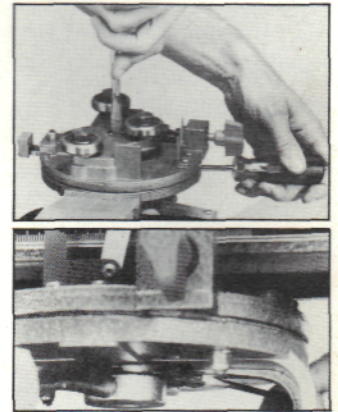

Fig. 26
- (c) While levering the spring steel locking flange downwards with a screwdriver (as shown in Fig. 26) so that it will pass over the lug on the yoke casting, turn the central bolt in the top of the yoke with a large screwdriver so that the locking flange underneath moves on one segment past the lug.